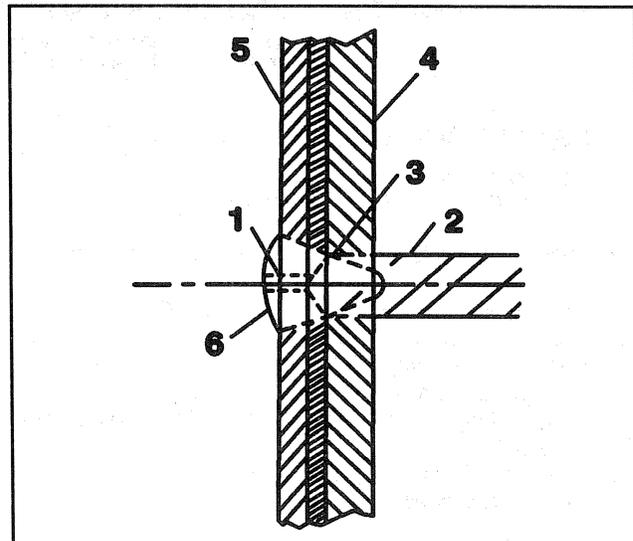

Figure 39—Drilling Out Spot Welds
- C. Drill a 3 mm (1/8 inch) pilot hole through the welds deep enough to penetrate the hinge base only (Figure 39).
- D. Drill a 13 mm (1/2 inch) hole through the hinge base only using the smaller hole as a pilot (Figure 39).